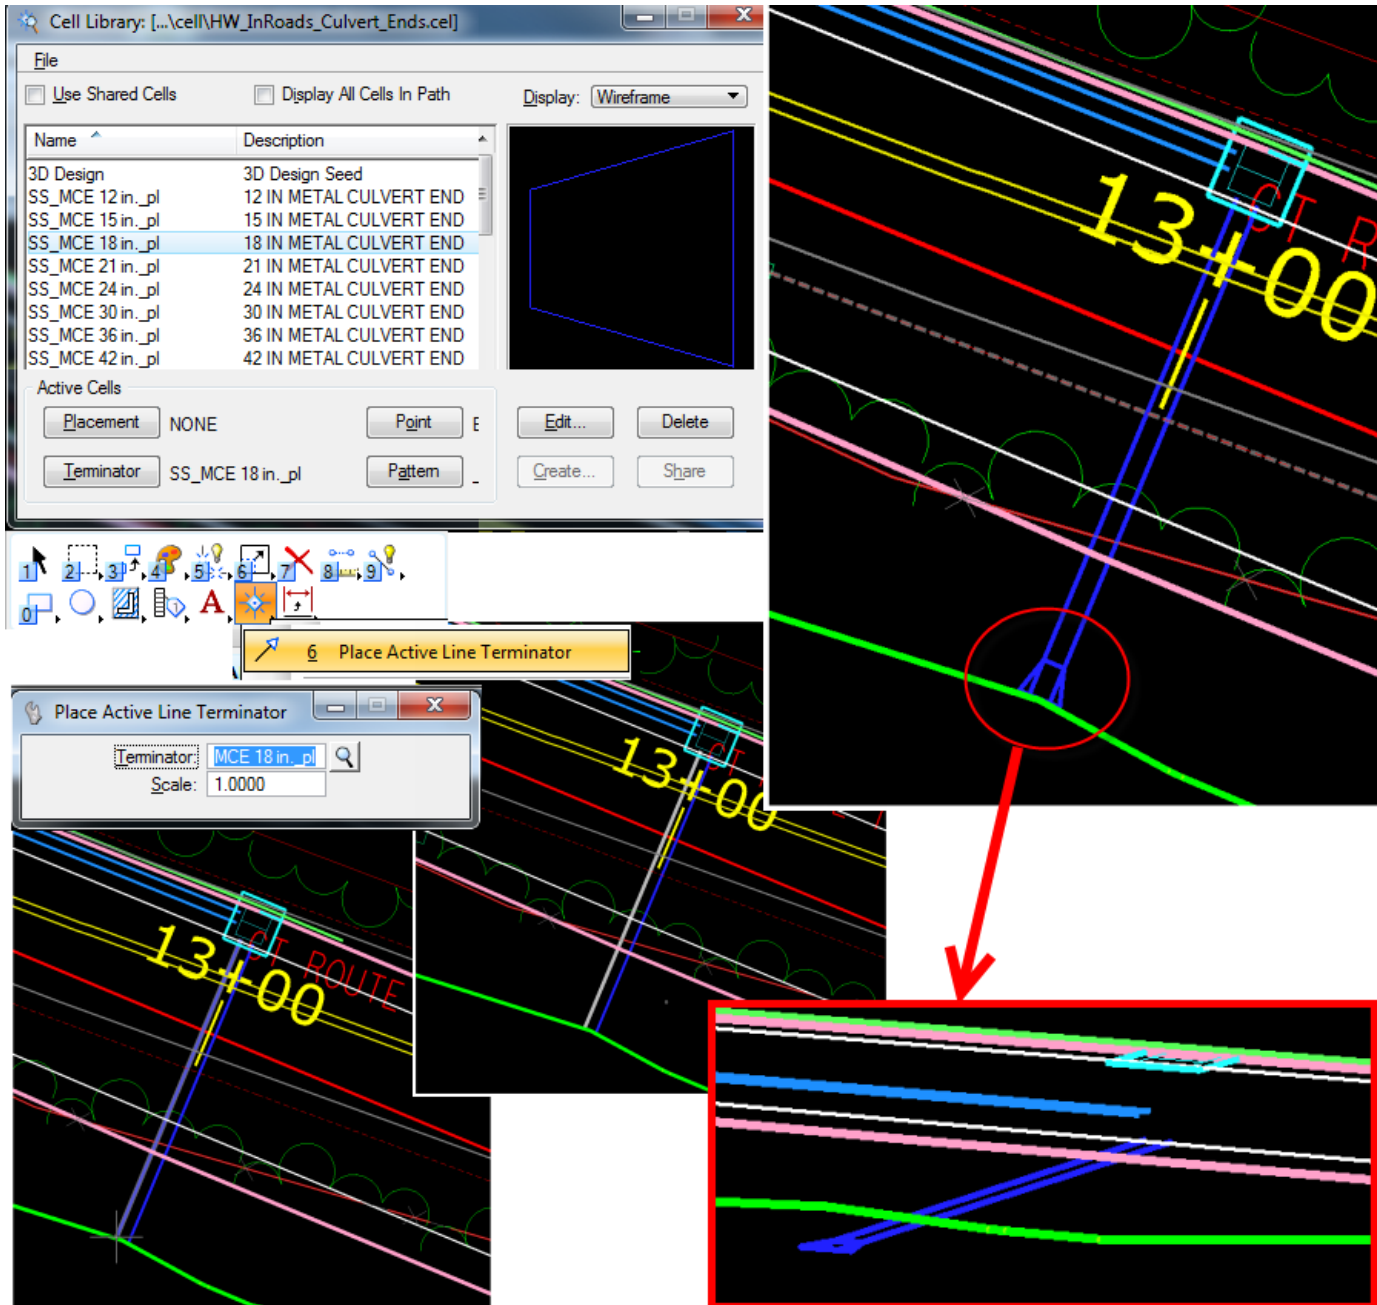

Figure 29 - Place Storm & Sanitary Culvert Ends
5. Select the **end of pipe line** and click again to place the culvert end. **Trim** back the pipe the match culvert end. (See Figure 29 ).